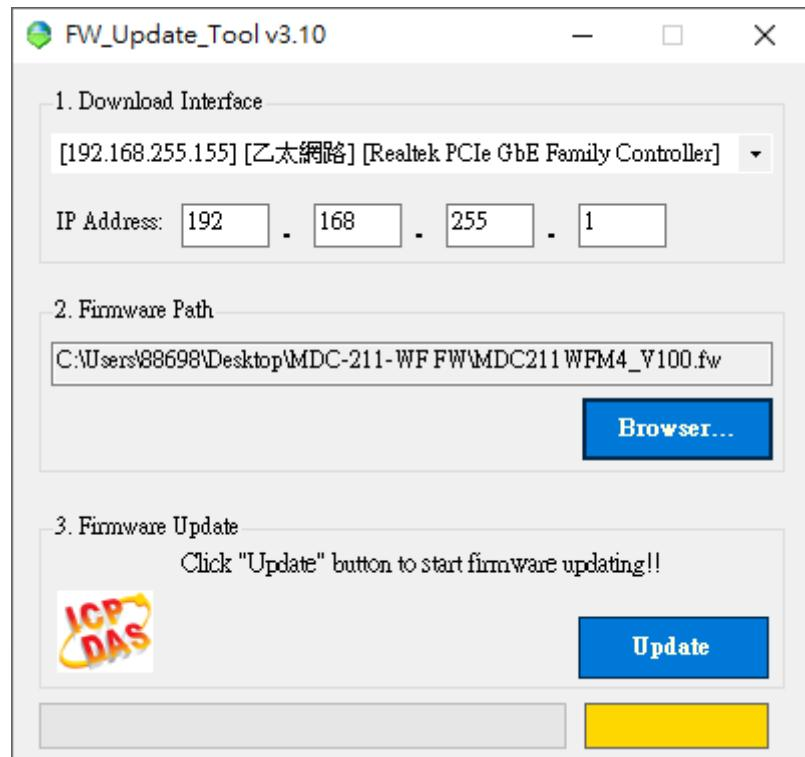

Figure 5.3 FW\_Update\_Tool firmware update steps
- (1) Download the latest version of the firmware program and update Tool (FW\_Update\_Tool) on the MDC-211-WF product page and store it in a computer that you want to connect to MDC-211-WF.
- (2) Short the FW with P.GND of MDC-211-WF and turn on the power. When the six LEDs of MDC-211-WF turn blinking alternately, the MDC-211-WF is successfully entered the firmware updating mode.
- (3) Execute "FW\_Update\_Tool.exe" with the administrator privileges () and follow the steps as Figure 5.3: